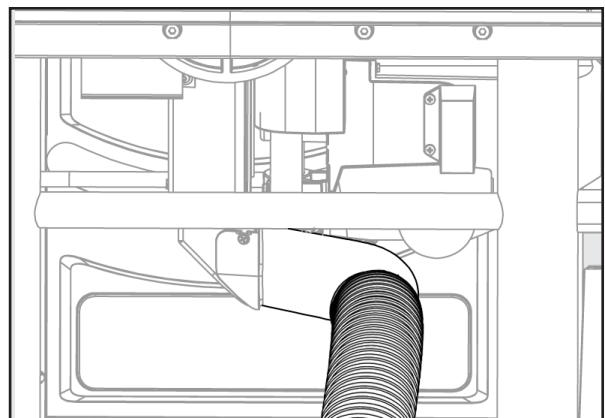

Figure 36
1. Connect a 2 1/2 inch shop vacuum or dust collection hose to dust port on back of saw for best dust collection. See Figure 36.